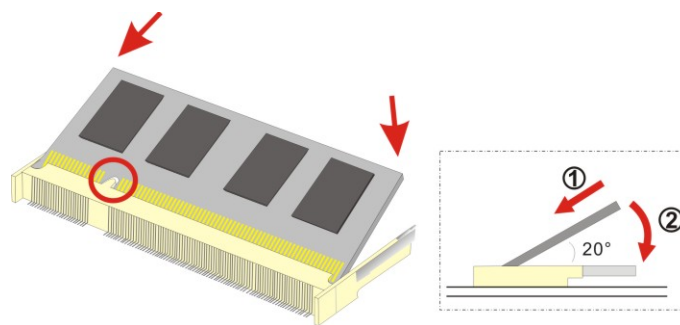

Figure 5-1: SO-DIMM Installation
To install a SO-DIMM into a SO-DIMM socket, please follow the steps below and refer to **Figure 5-1.**
Step 3: Insert the SO-DIMM. Push the SO-DIMM chip into the socket at an angle. (See **Figure 5-1**)
Step 4: Open the SO-DIMM socket arms. Gently pull the arms of the SO-DIMM socket out and push the rear of the SO-DIMM down. (See **Figure 5-1**)